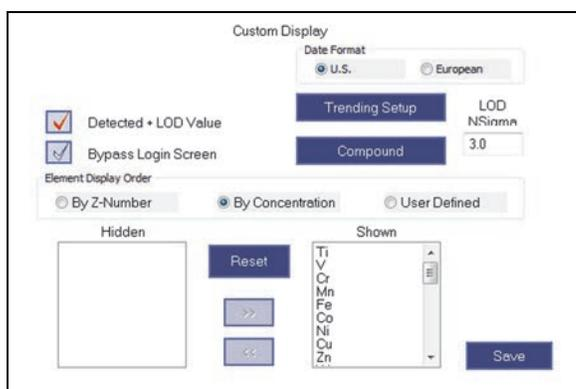

Figure 1-45 The Customize Display pane
- ◆ Click the **Customize Display** icon () to display the **Customize Display** pane (see Figure 1-45 on page 36).
There are three variations of the **Customize Display** pane depending on the mode (see Figure 1-45 on page 36):